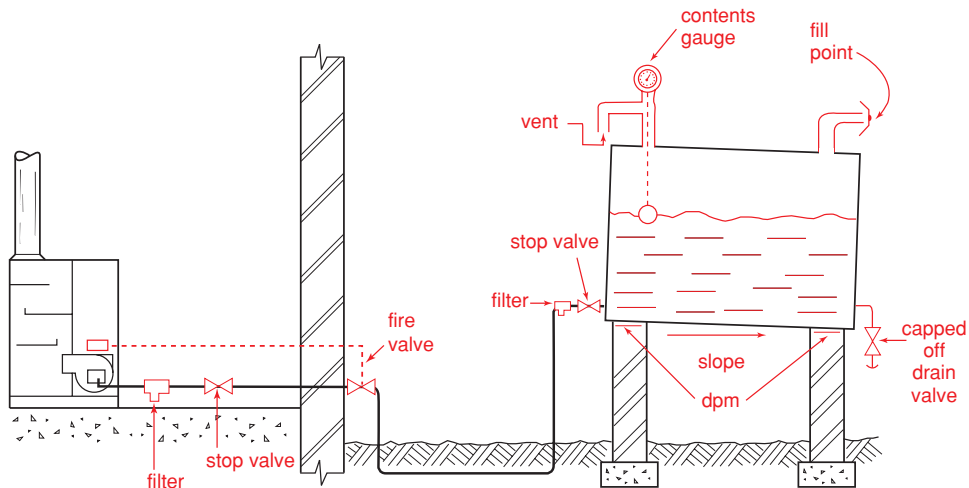

Figure 20
- (51) With reference to Figure 20, complete the illustration of the gravity-fed one-pipe oil supply system to show the necessary components and controls to be located on the storage tank and pipeline to enable its safe, efficient and effective use. (Page 251.)